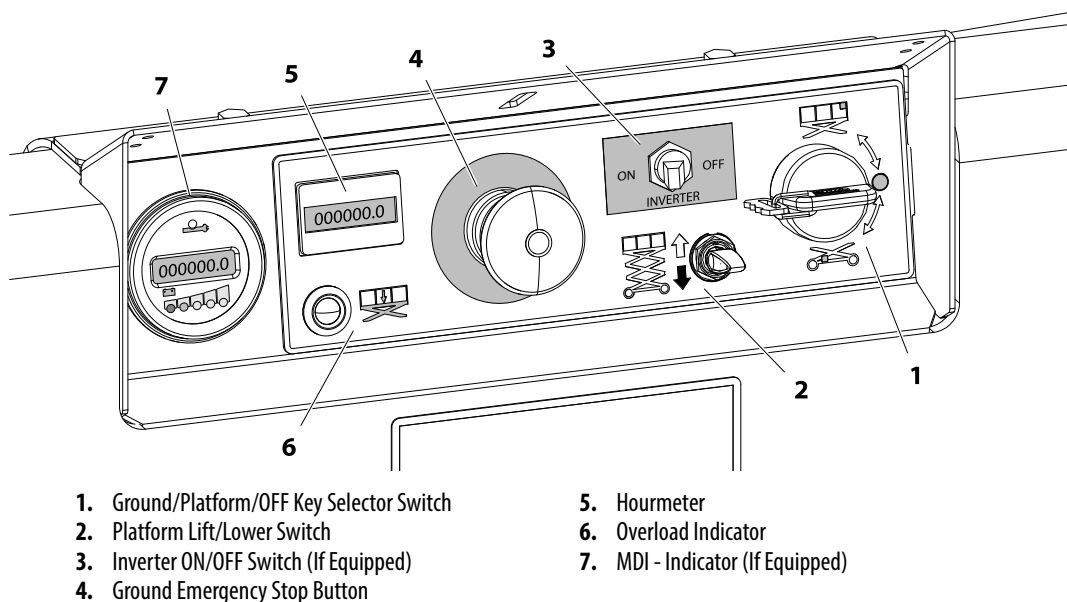

Figure 3-7. Ground Control Station - Folding Cover
Set the master power switch (*item 5*) on the side of the inverter unit to ON and leave it there. Use the inverter on/off switch at the Ground Control panel (see Figure 3-7., item 3) to power the inverter on and off, via the DC power contactor relay (item 6 in illustration below).